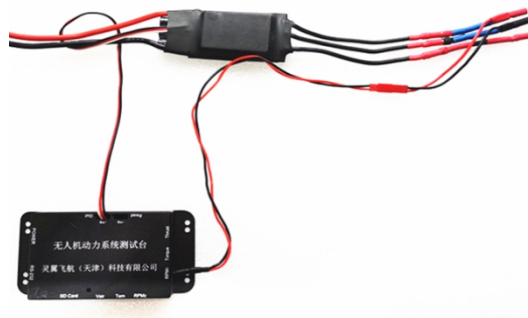

Fig. 2.2.3 Connection of signal cables
(2). Connect JST Plug. ESC signal cable connects to “OUT” port on the control module, as shown in Fig. 2.2.3: